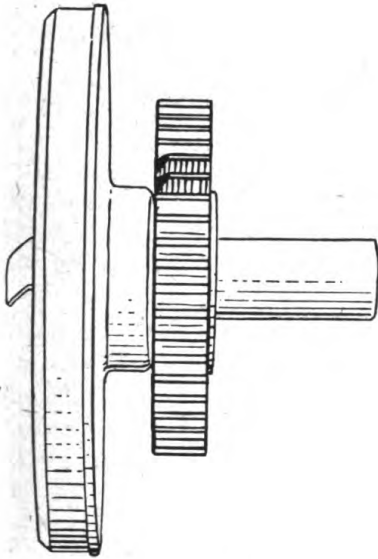

Fig. 47
3. See that the gears are meshed according to the marking on the teeth. (There is a red dot on the steel gear on rotor shaft, directly under one tooth which should mesh between two beveled teeth on distributor gear. On the distributor gear 'canvas base bakelite' there are two teeth beveled off. The bevel on the teeth should be on the side of the gear next to the red distributor disc as shown in Fig. 47. If it is on the side away from the red distributor disc, the gear is on the shaft wrong and should be turned over. Should the gear be on the shaft backwards, or the gears be missmeshed this would cause the T sector on distributor disc to be away from brushes in distributor cap when spark occurs. (This would cause magneto to become corroded and badly burn the distributor disc face.) If gears are meshed correctly, remove distributor disc.
50. Place distributor gear assembly in frame being careful to match gear teeth as marked. Tooth over red dot on steel gear is to be placed between two beveled teeth on fabric gear which are also painted red on the bevels. Bevels should be on side of gear next to distributor disc as shown in Fig. 47. Check again to see teeth are properly matched.